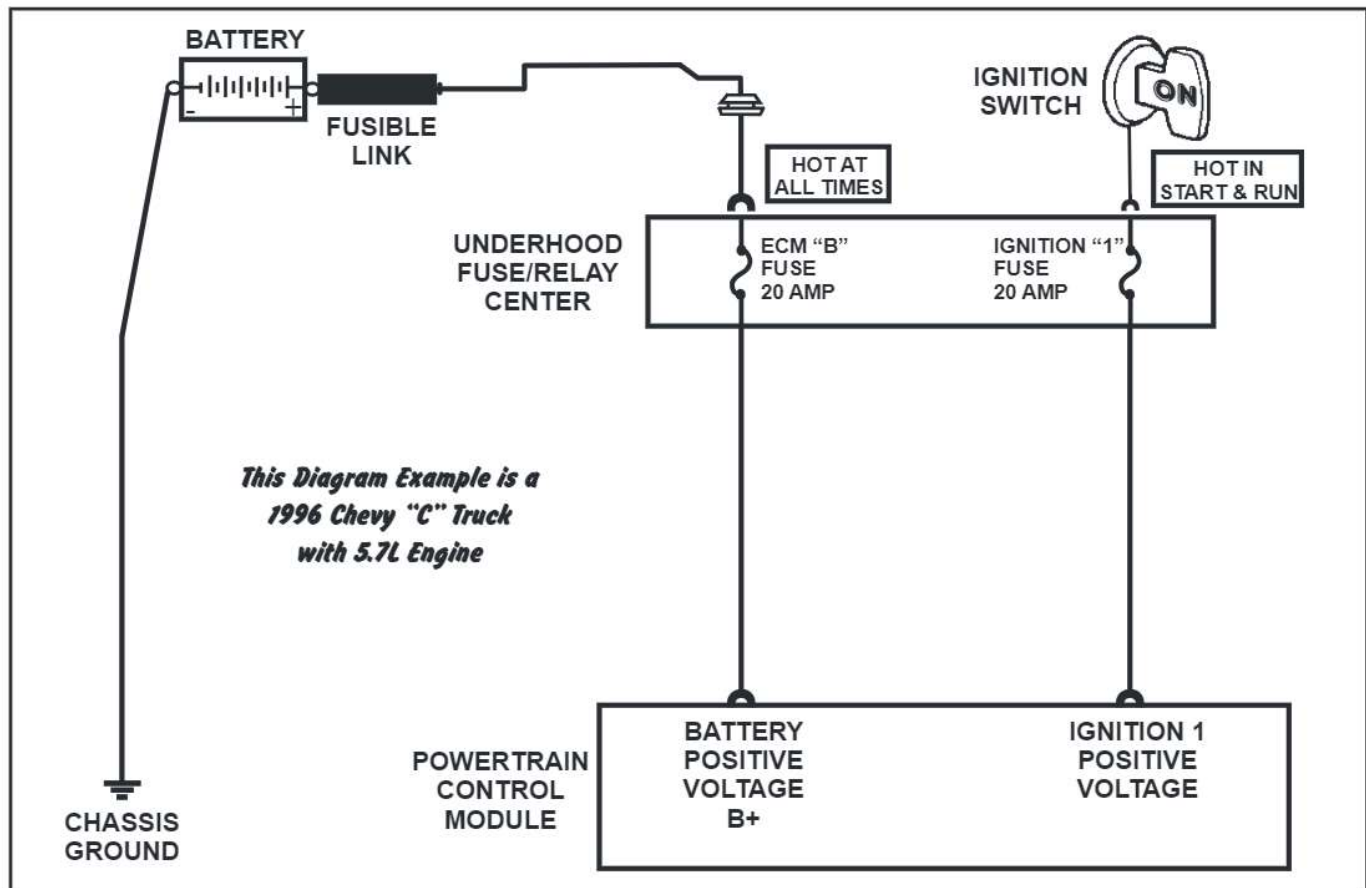

Figure 145
- The power supply circuits to the computer are fuse protected circuits, always check fuses when there is no power on the circuit being checked, Refer to Figure 145. (Remember, high resistance can cause a lesser amount of voltage than is required on a circuit, therefore circuit test lamps, unless specifically designed for the task, should not be used.
- "Keep Alive" direct battery feed circuits are usually connected directly to the battery positive accessory lead or the starter solenoid. These are usually protected by fusible links which are designed to break apart when current becomes too high thereby breaking the voltage supply, high resistance is also a factor with these fusible links, (Refer to Figure 145).
- The power supply circuits to the computer are fuse protected circuits, always check fuses when there is no power on the circuit being check, Refer to Figure 145). (Remember, high resistance can cause a lesser amount of voltage than is required on a circuit, therefore circuit test lamps, unless specifically designed for the task, should not be used.
- “Keep Alive” direct battery feed circuits are usually connected directly to the battery positive accessory lead or the starter solenoid. These are usually protected by fusible links which are designed to break apart when current becomes too high thereby breaking the voltage supply, high resistance is also a factor with these fusible links, (Refer to Figure 145).